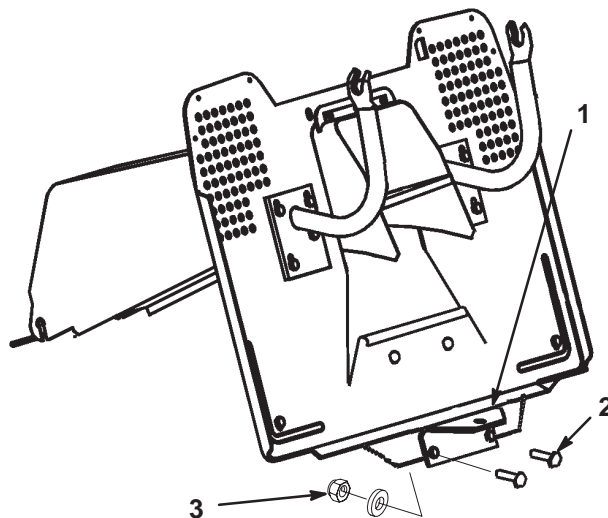

Figure 3
2. Attach the hitch with two bolts, washers, and nuts (Fig. 3).